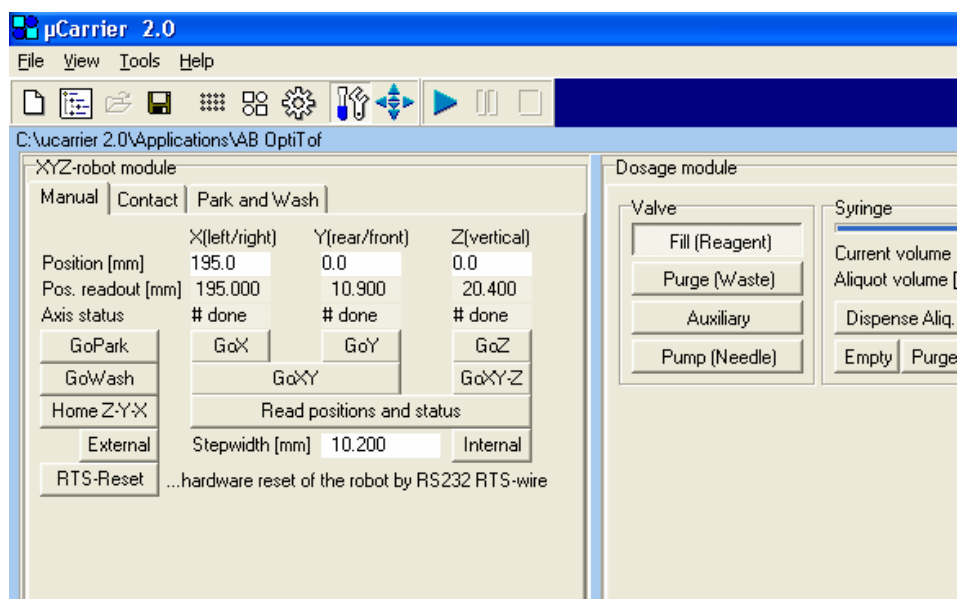

FIGURE 2-48 The XYZ Robot Module Section
- a) Select **Manual Device Control** from the **Tools** menu or select the *Manual Device Control* button to present the 'XYZ Robot Module' and 'Dosage Module' window (FIGURE 2-48).